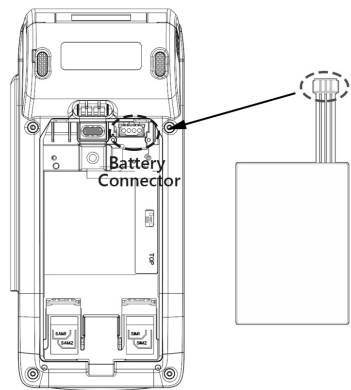

Figure 9
- STEP 2: After removing the battery cover, pull up the battery connector as below Figure 9 to change a new battery.